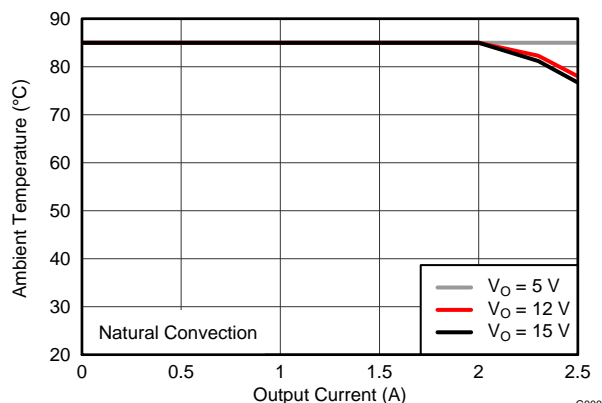

Figure 17. Safe Operating Area
- (3) The temperature derating curves represent the conditions at which internal components are at or below the manufacturer's maximum operating temperatures. Derating limits apply to devices soldered directly to a 100 mm × 100 mm double-sided PCB with 1 oz. copper. Applies to Figure 17.